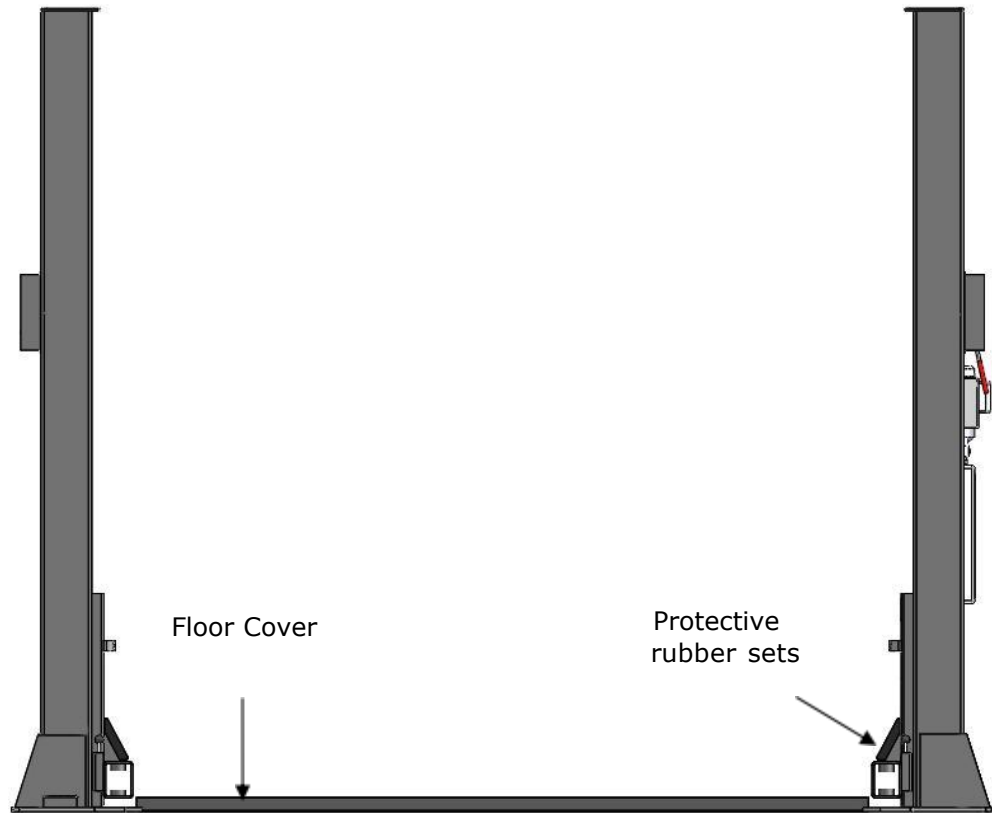

Fig. 24
M. Assemble floor cover and protective rubber sets (See Fig. 24).